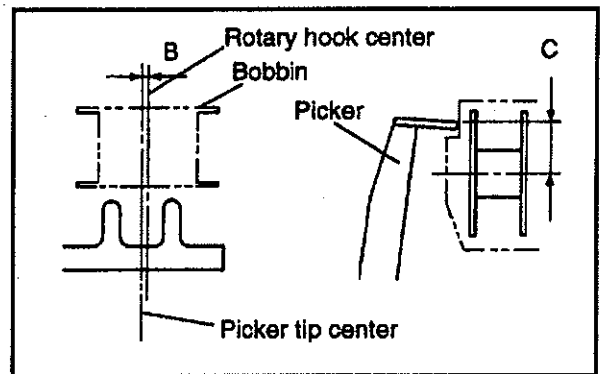

FIG.2
- (3) Clearance B between the picker tip center and the rotary hook center must not exceed 1mm (Fig.2).
- (4) The picker height C must be 7 to 9mm from the center of the rotary hook (Fig.2).